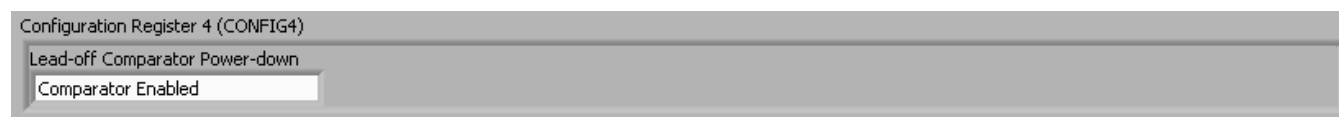

Figure 42. Configuring the Lead Off Comparator
- Step 3. Turn on the lead-off comparator by setting the bit in the Configuration 4 Register in the Global Registers control tab, as Figure 42 shows.